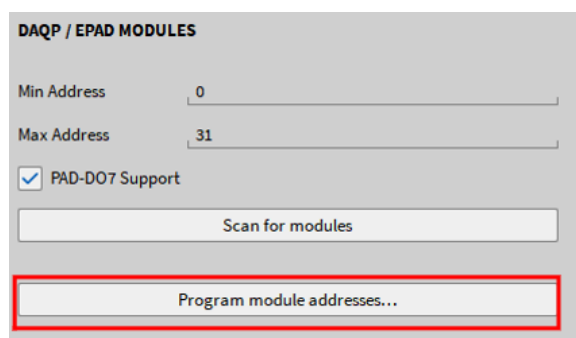

Fig. 4.26: *Program module addresses* button
- If you have multiple EPAD2 modules daisy chained together, the user can select the *Program module addresses...* button (see Fig. 4.26).